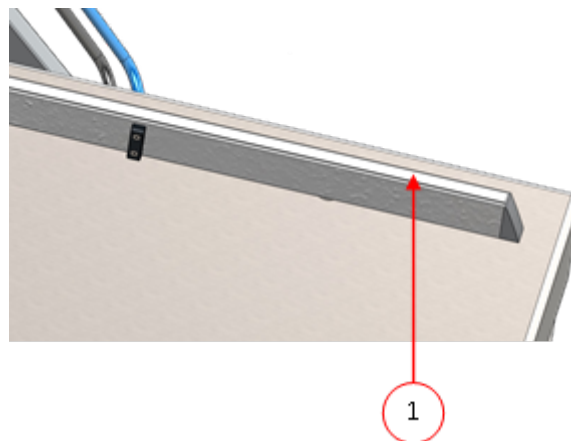

Figure 17: Replacing the Silicone Rubber of the Silicone Holders
1. Pull the old silicone rubber from the holder, see *Figure 17: Replacing the Silicone Rubber of the Silicone Holders* on page 61.